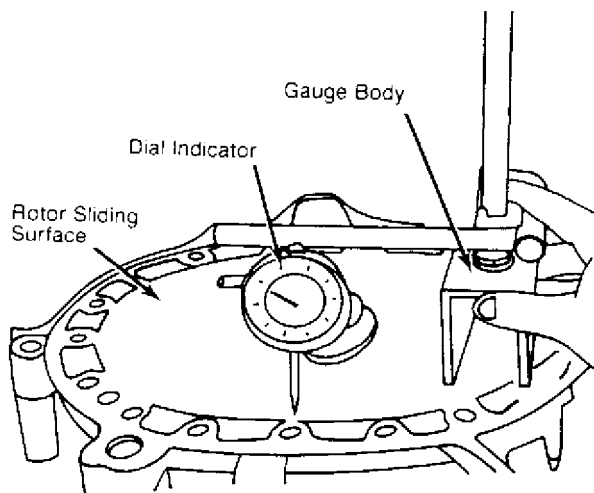

Fig. 7: Measuring Housing Wear with Dial Indicator
5) Using a dial indicator and gauge body, measure rotor sliding surface stepped wear pattern on the 3 housings. See Fig. 7.